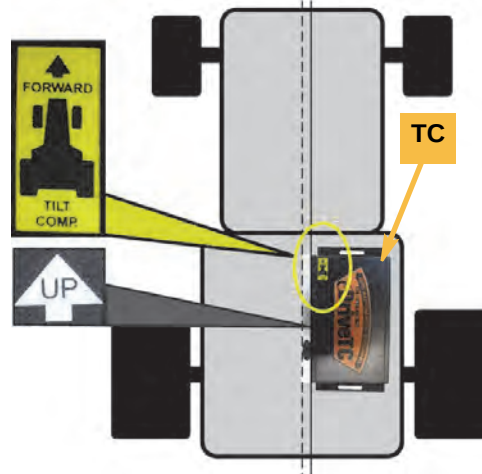

Figure 1a: ECU mounting location
- Through its end flanges, install the ECU **TC** on a level surface in the machine's cab. The unit must be 'UP' (see label), parallel to the fore/aft centerline of the machine, and pointing forward as indicated by the yellow label (Figure 1a). (The power switch and cable connectors will be inward with the unit installed on the right side of the cab.)